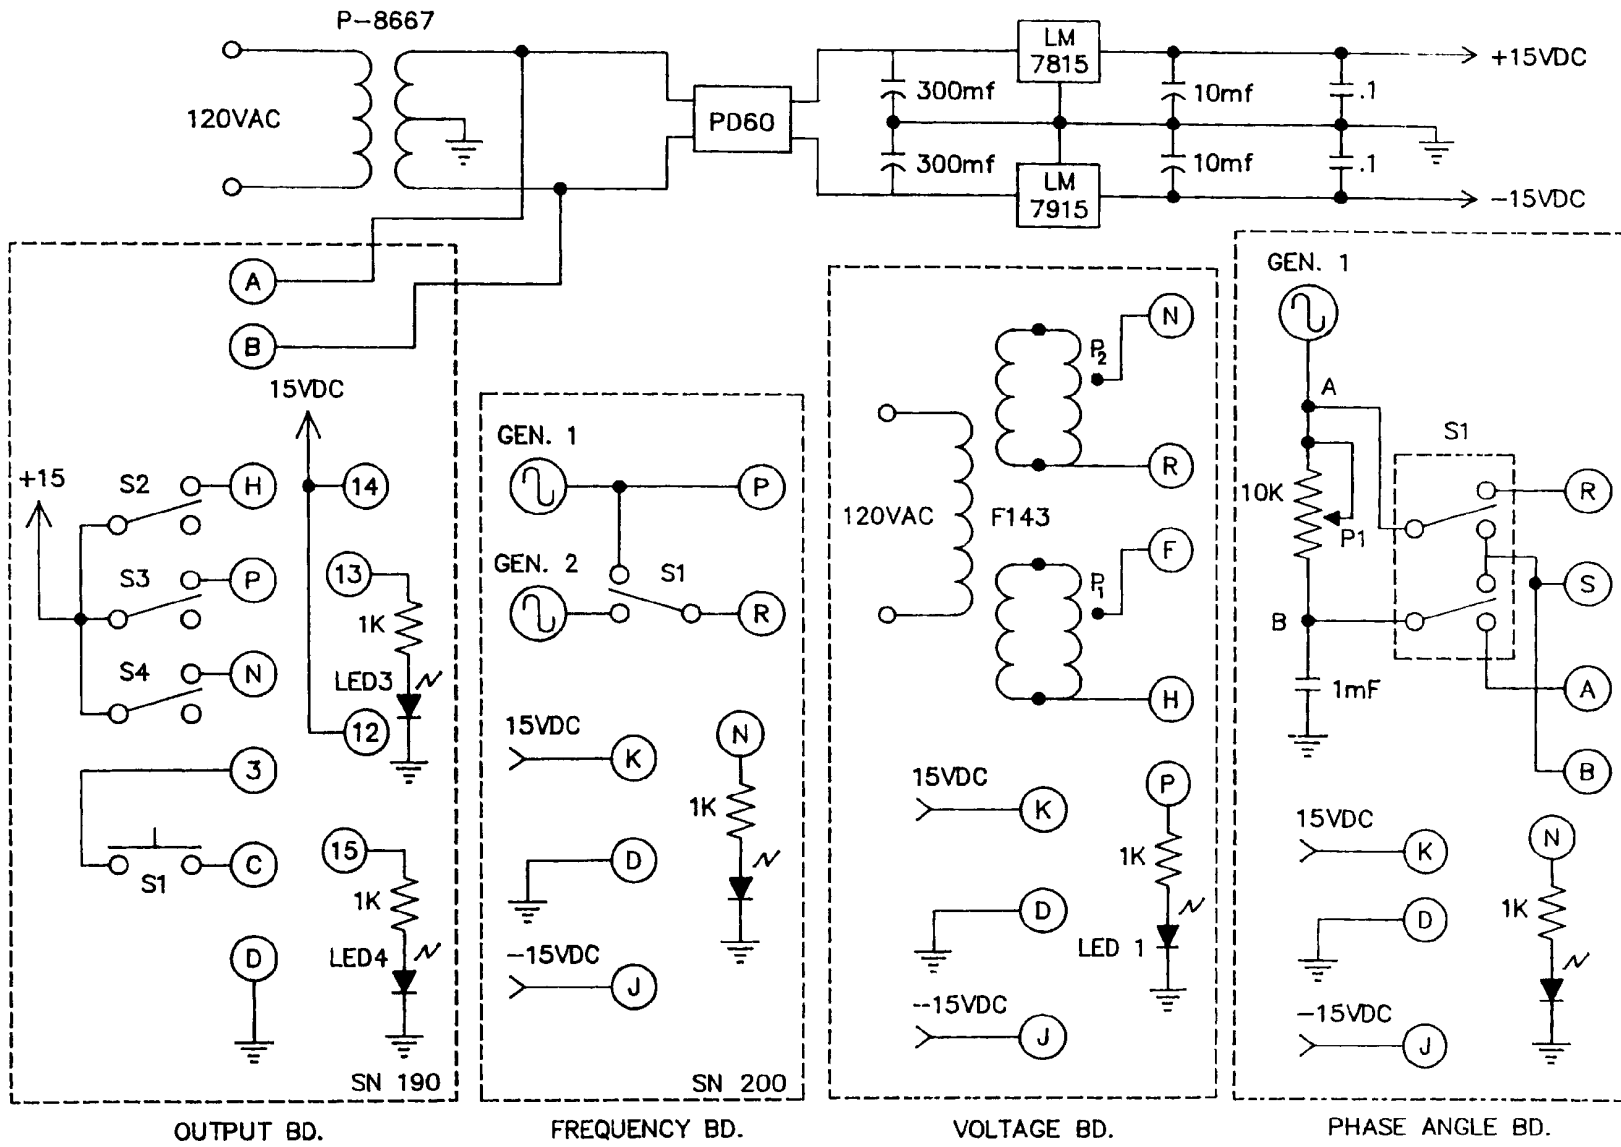

Figure 5-3. Component PCB Test Configuration for Synchronizing Monitor
The individual cards of the synchronizing monitor all use the Test Fixture as shown in figure 5-3.
Power requirements: 120 VAC connected to a power supply as shown in figure 5-3.
- b. Connect PCB as shown in figure 5-3.
- d. Jumper between P and 1 (Z2 pin 13 connected to variable resistor R18). Switch S1 to up position (figure 5-3) to apply signal from point A to pin R of connector and point B to pin S of connector. Adjust generator for 10V peak to peak. Sine wave 60 Hz.
- b. Connect Output board as shown in figure 5-3.
- (1) Set frequency generator for 55 Hz.
- (2) Adjust variable resistor R23 for 0.00 ± 0.05 VDC at pin 8 on Z3.
- (3) Adjust variable resistor R14 for 0.00 ± 0.05 VDC at pin 8 on Z1.
Power requirements: 120 VAC and a power supply as shown in figure 5-3.
- a. Visually inspect PCB for poor solder joints, solder splashes, incorrect components, and incorrect diode and capacitor directions, S2, S3 and S4 open. See figure 5-3 for schematic.
- b. Connect card as shown in figure 5-3.